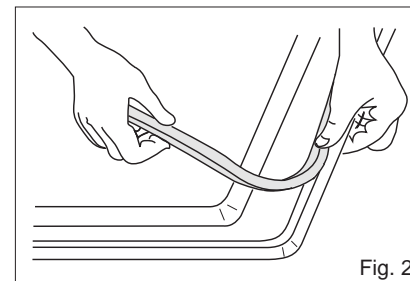

Fig. 2
- 2) Place the gasket around the bottom edge of the hob as shown in the illustration on the right (fig.2).